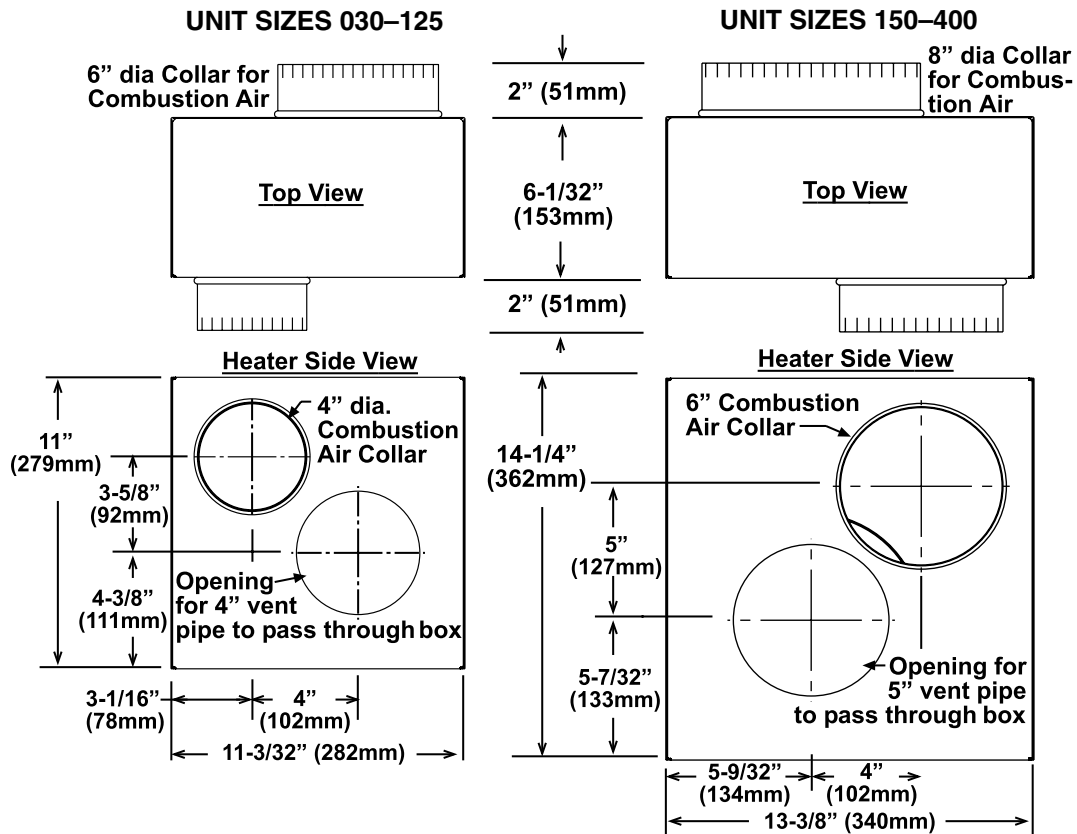

Figure 3. Concentric Adapter Box Dimensions (Refer to Table 4)
- See Figure 3 for concentric adapter box dimensions.
- Table 4 lists vent pipe opening diameters shown in Figure 3.
*See Figure 3.